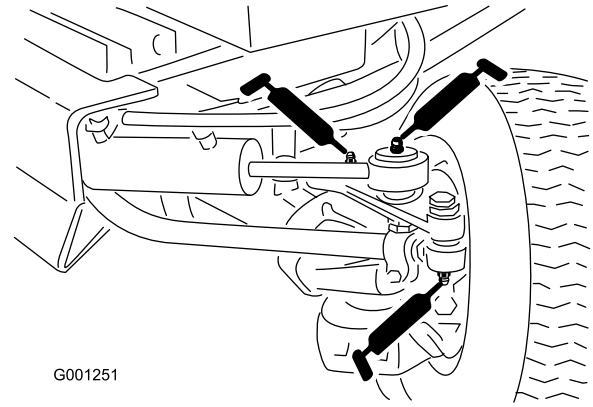

Figure 46
- Tie-rod ends (2) (Figure 46)
- Cylinder-rod ends (2) (Figure 46)
- Steering pivots (2) (Figure 46)
- Axle-pivot pin (Figure 46)